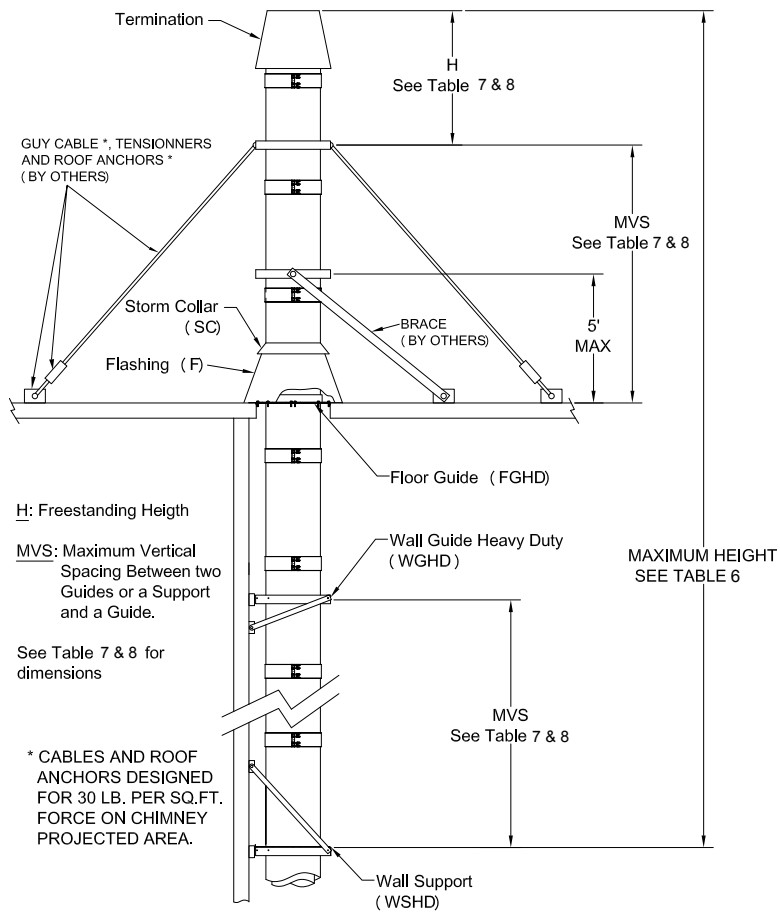

Figure 27 - Height with rigid bracing or guying option for DSLS & DSLD
• If Dimension "H" exceeds the value in the Table 7 & 8, use bracing or cable guying to stabilize chimney section above the roof. See Figure 27